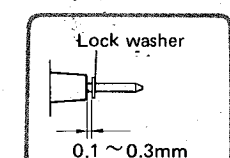

Fig. 18
4. Remove the flywheel by pulling out toward to the backward as it is. When assembling the flywheel, be careful not to forget attaching the washer. (Refer to Fig. 18)